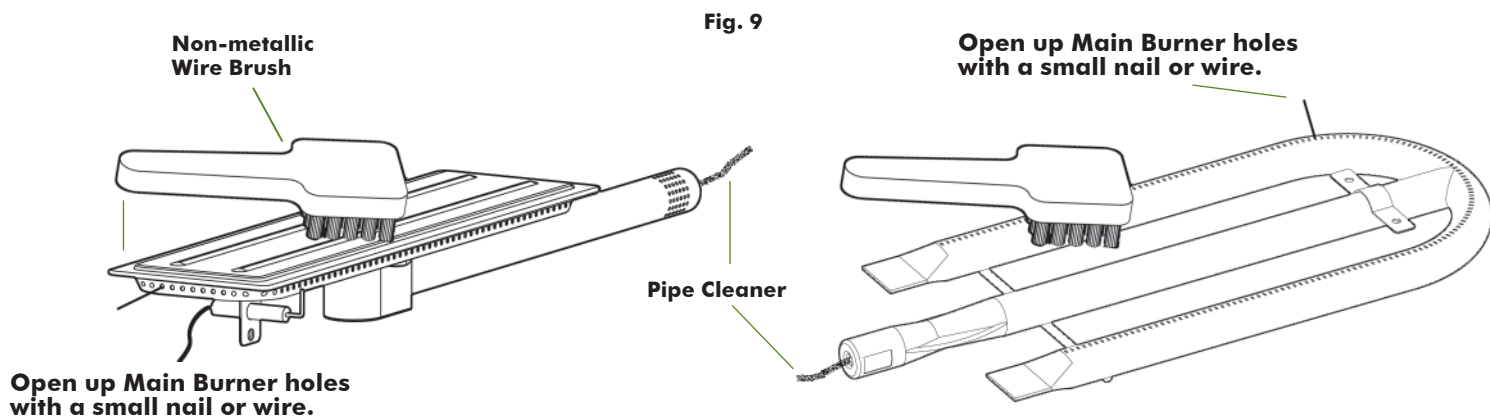

Fig. 9
5. Use a pipe cleaner to clear insect nests or debris from the inlet hole of Main Burner (Fig. 9)
6. Open up the Burner holes (Fig. 9) with a small nail or wire. Use a **non-metallic brush** to remove food particles and corrosion from the Burner surfaces.